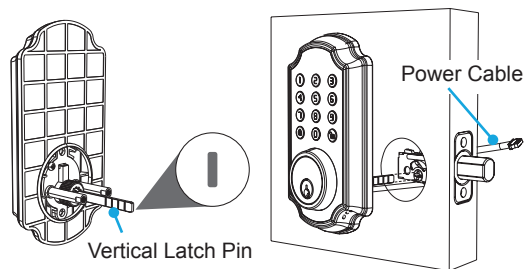

Fig. 7
**Step 2.** Start with the outside section. Turn the latch pin vertically and remove the key from the key hole. Gently feed the power cable under the latch and thread the latch pin through the square hole in latch. The latch pin must be vertical while inserting the square hole in the latch (Fig. 7).